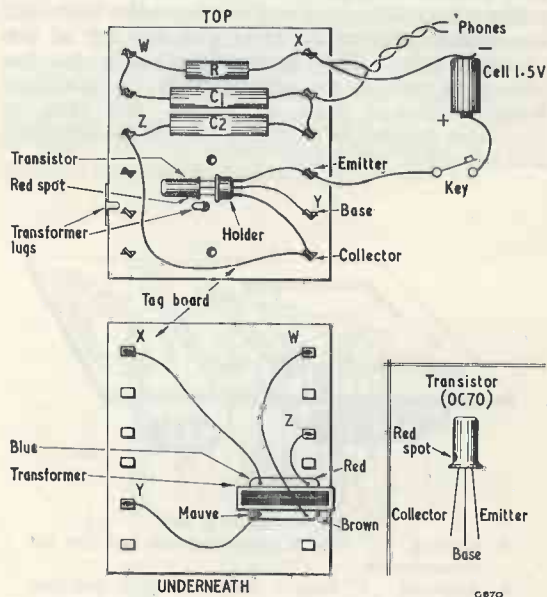

Fig. 2. The layout employed with the prototype oscillator
The construction of the writer's model appears in Fig. 2. This employs a tagboard having a central row of holes, the length used here incorporating two sets of six solder tags. It was found possible to fit the transformer below the board by passing one of its mounting lugs through a central hole and by bending the other mounting lug around the edge of the board, as shown. The remainder of the components are then fitted above the board.
In Fig. 2 the connections from the transistor are identified e, b or c accordingly, the appropriate transistor connections being shown in the inset diagram and in Fig. 1. Similarly, the connections from the transformer are identified by the letters W, X, Y and Z.
Layouts other than that shown in Fig. 2 may be used, provided that the transistor and transformer connections correspond to those given in Figs. 1 and 2.
- Fig. 2. Application of solder